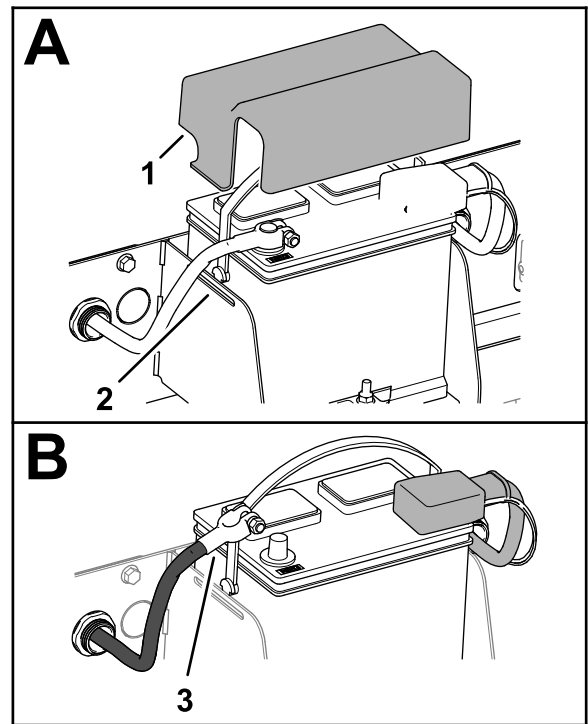

Figure 3
1. Press the tabs the battery cover to release the cover from the slots in the battery tray, and remove the cover (Figure 3).
2. Remove the clamp of the negative battery cable from the negative battery post (Figure 3).